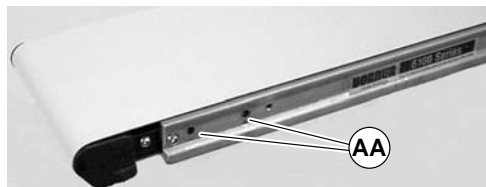

Figure 12
5. On side opposite drive output shaft, remove two screws (AA of Figure 12).